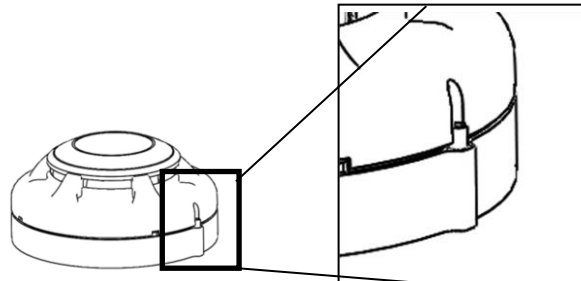

Figure 15: Position of the locking screw to lock the detector
3. Install the detector into the mounting base, making sure the wiring does not obstruct mounting of the detector head. Push the detector into the mounting base while turning it clockwise until the detector locks into place. Use a small hexagonal wrench to set the tamper resist feature (if required), see Figure 15.
The VDOT-UB series, VDOT-S6 Base, and VDOT-STB series of smoke/heat detector mounting bases have a tamper-resist feature that works in conjunction with the detectors. When this feature is enabled, the detectors cannot be removed from the base without the use of a small hexagonal wrench. To avoid unauthorized removal of the detector, turn the locking screw in the mounting base counterclockwise until the screw extends out about 4 mm (3/16 in.) from the rim of the base, as shown in Figure 15.